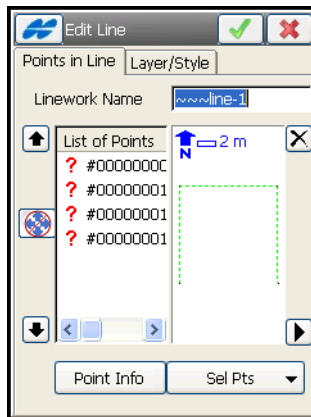

Figure 6-27. Edit Line
4. On the *Points in Line* tab of the **Edit Line** screen, change the name of the linework if necessary (Figure 6-27).